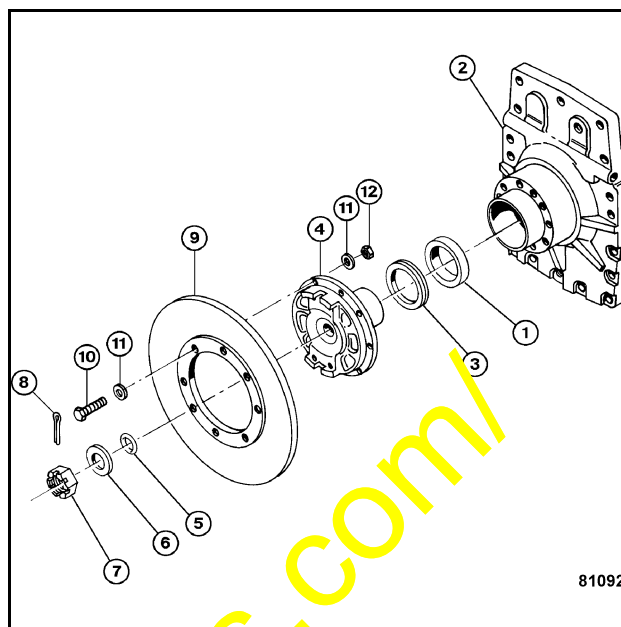

Figure 4
8. Install new seal (1, Figure 4) into differential case cover (2); install new v-seal (3) onto new yoke (4); seals are included in 1438019H91 yoke kit.
9. Install yoke assembly (3 & 4) onto pinion shaft in differential case cover (2).
10. Install new 22288 R1 o-ring (5), special washer (6), and castle nut; tighten to 445 lbf ft, loosen to 200 lbf ft, then tighten to 300 lbf ft. Install cotter pin (8).